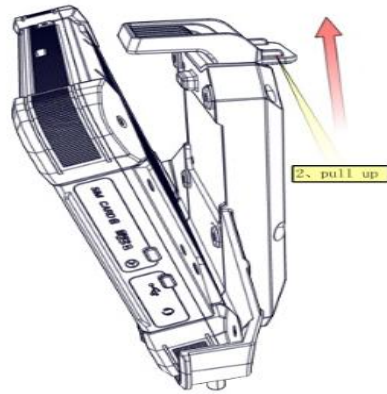

Figure 2
4.1.2 Pull the buckle up as the Figure 2 shown.